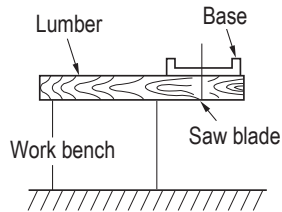

Fig. 17
5. Prepare a wooden work bench (Fig. 17)